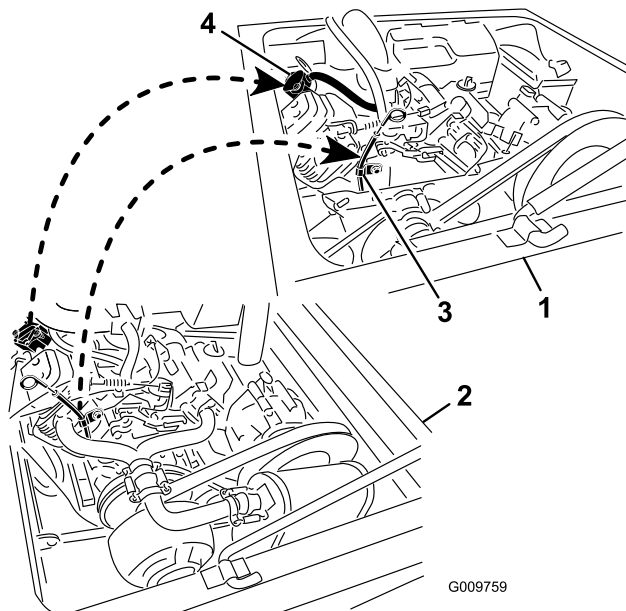

Figure 1
1. Remove the dipstick assembly from the old engine (Figure 1).
2. Remove the dipstick assembly from the new engine (Figure 1).
3. Install the old dipstick assembly to the new engine (Figure 1).
4. Remove the fuel pump from the old engine (Figure 1)
5. Remove the fuel pump from the new engine (Figure 1).
6. Install the old fuel pump to the new engine (Figure 1).